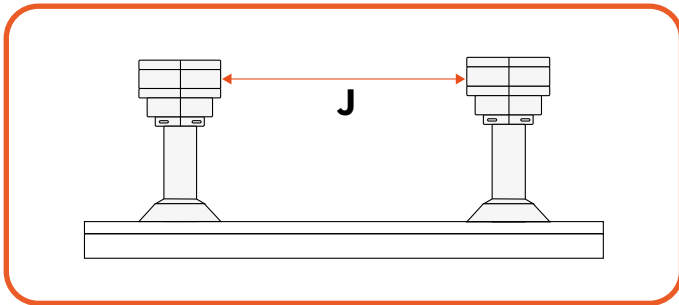
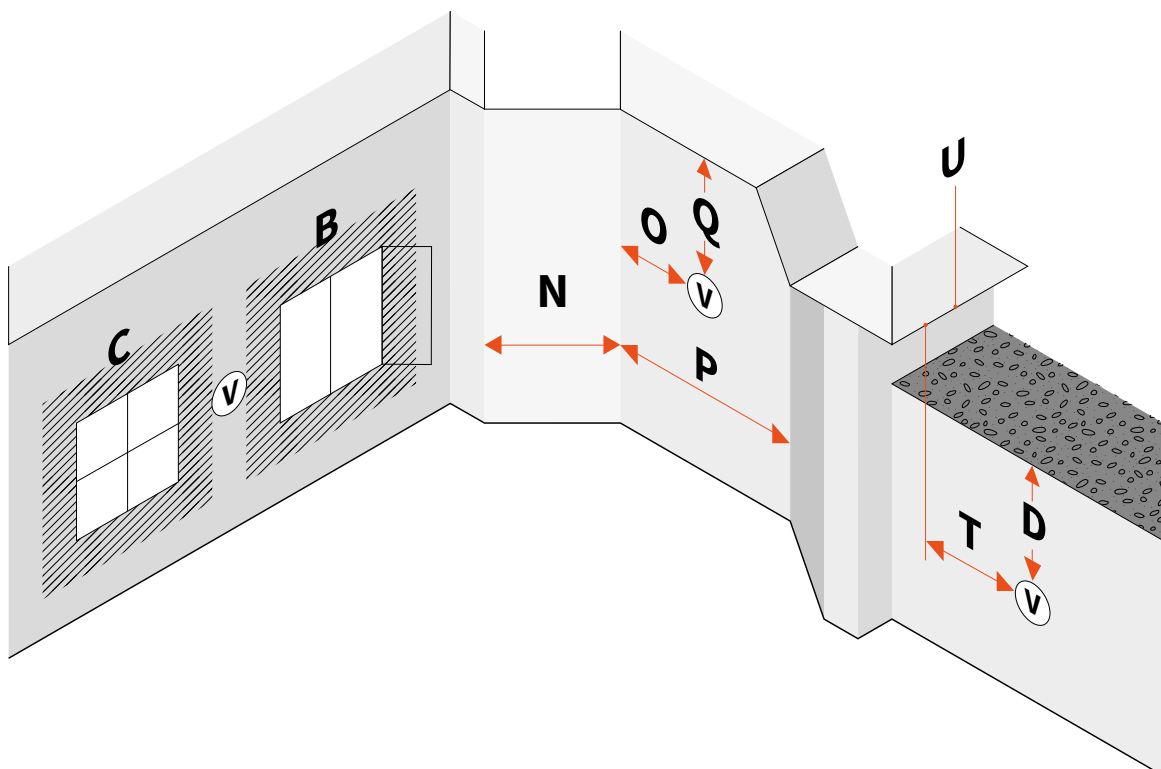

Figure 11.2 - Multiple termination clearance
Figure 11.4 - Horizontal vent termination II
- Remove the lower magnet tabs from between the bottom trim and the front windows (**Figure 11.2** and **Figure 11.4**)